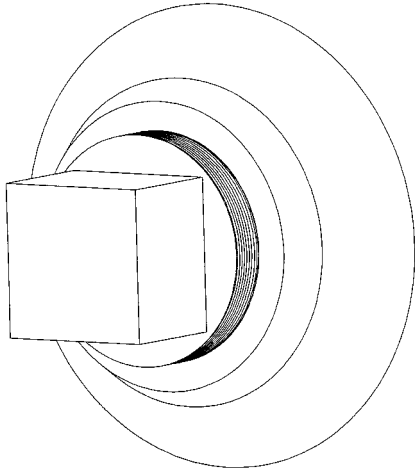

Figure 2. Liquid level plug.
Elevated Pressure. Can cause severe personal injury. Do not remove liquid level plug (see Figure 2) before venting transformer to zero pressure. Pull ring on pressure relief valve to relieve pressure.
4. The liquid level inside the tank must be checked (see Insulating Liquid Maintenance section of this manual). On transformers equipped with a liquid level gauge, the liquid level may be read directly from the gauge. On transformers that are not gauge equipped, the tank liquid level must be determined by removing the liquid level plug (see Figure 2). At 25 °C liquid temperature, the liquid level should be at the bottom edge of the liquid level plug hole.